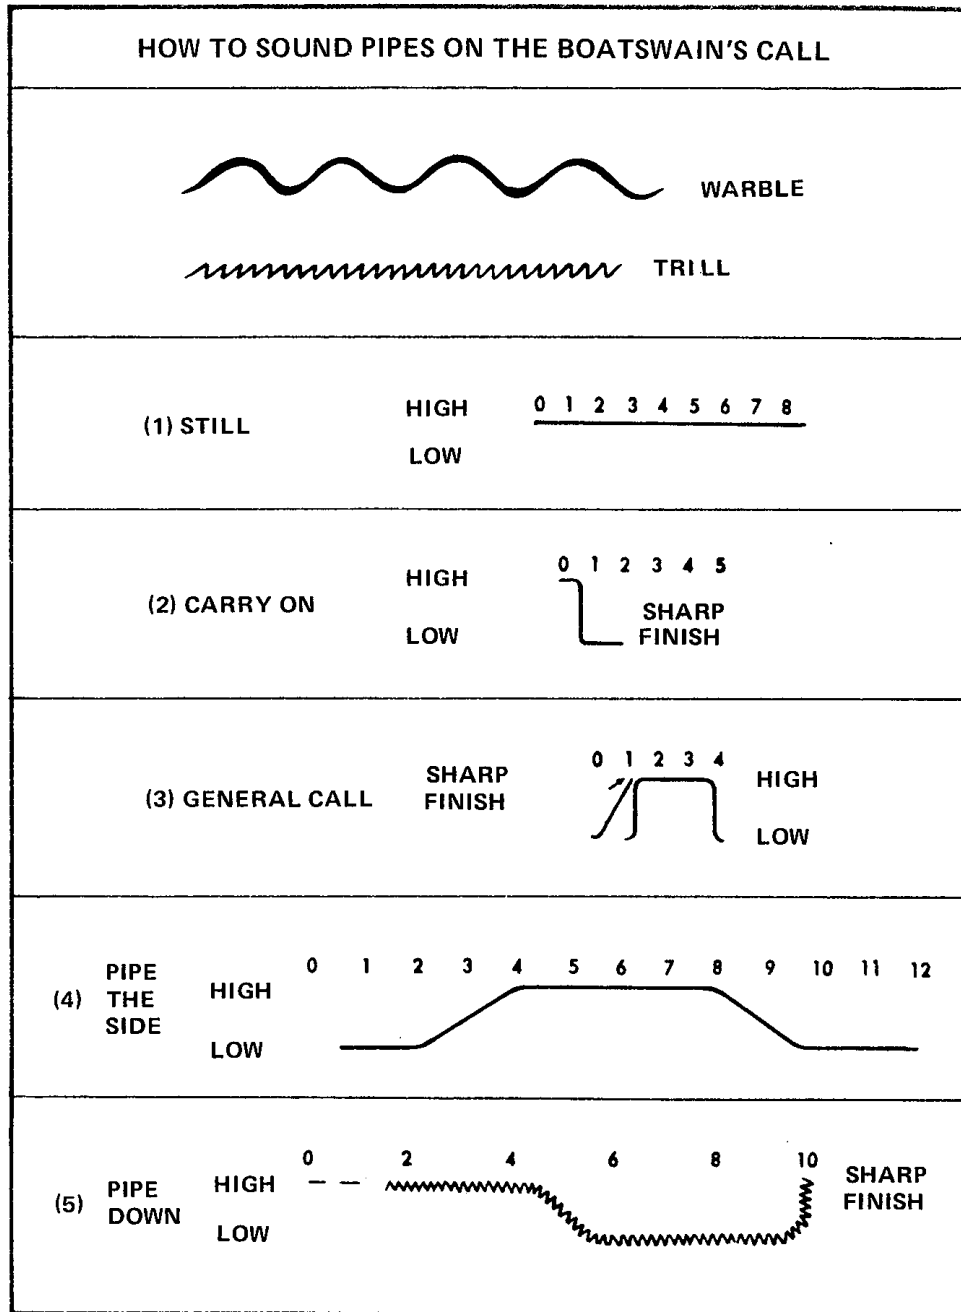

Figure 9-5 How to Sound Pipes on the Boatswain's Call
12. **Limited Use** — At one time these notes and tones were used to make a great variety of pipes. Many evolutions at sea could be carried out with hardly a spoken word being passed to the crew, all orders being relayed by sounding the appropriate pipe on the boatswain's call. Nowadays, however, only very few special pipes are used, and these are illustrated in Figure 9-5. Learn to sound these pipes properly.